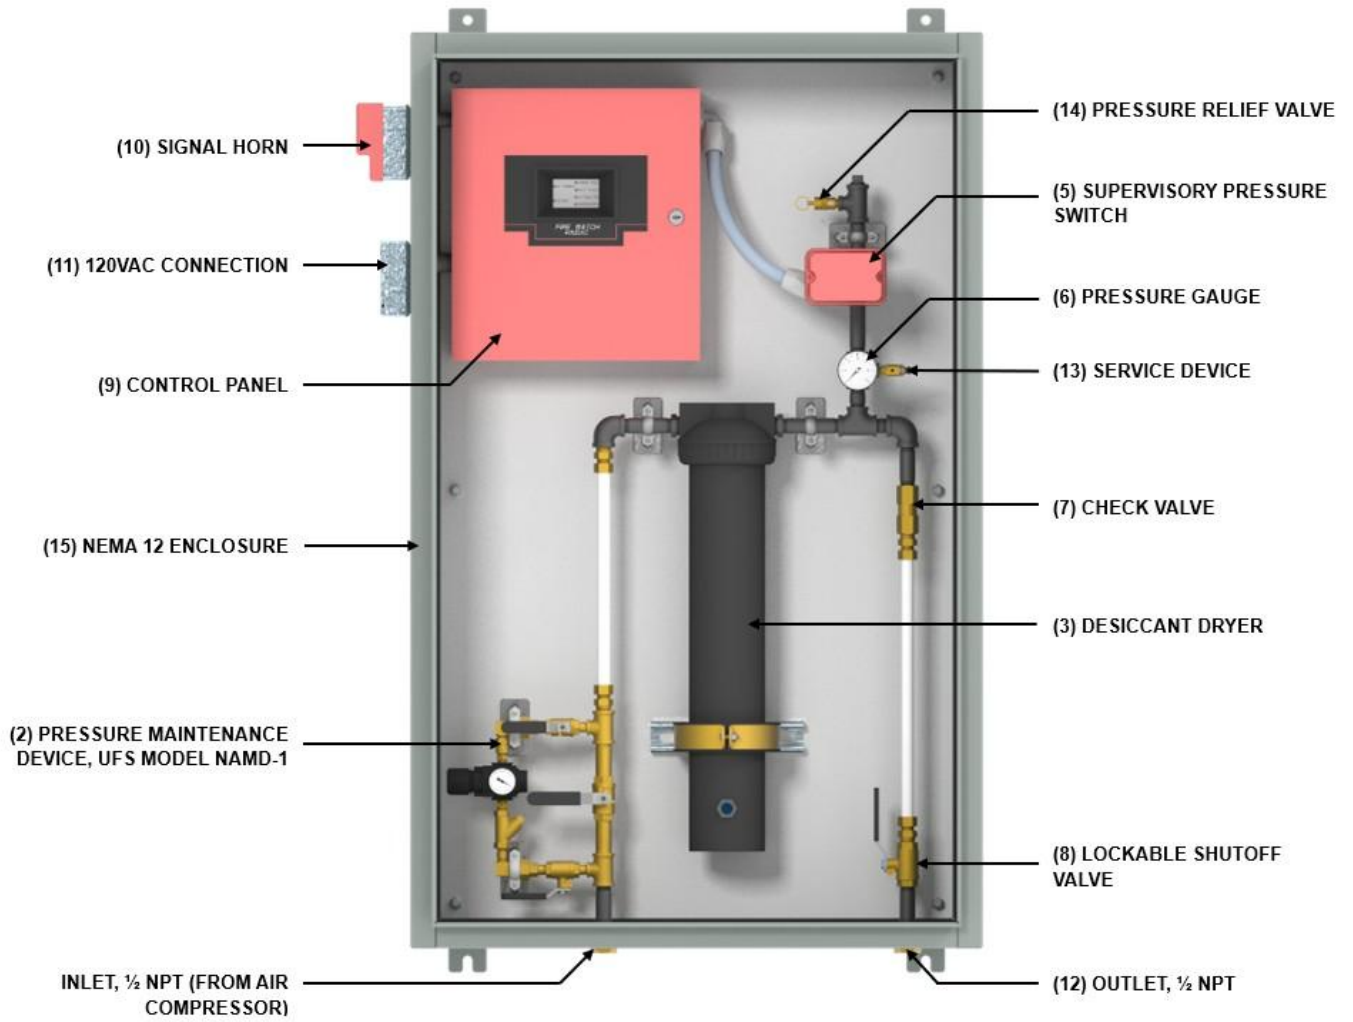

Figure 2 – **STANDPIPE-PAC™** SSS-100-XL1-N
- (5) Supervisory pressure switch. This switch senses when the pressure in the standpipe drops below 7 PSIG, as would happen if a standpipe valve was inadvertently opened, or a portion of the piping was inadvertently removed, or exceeds 23 PSIG, as may happen if the pressure maintenance device's regulator is set incorrectly or has its bypass valve open. This switch sends its signal to the control panel (9). See **Appendix B** for more information.
- (6) Pressure gauge. The pressure gauge indicates the approximate pressure in the system in PSIG.
- (7) Check valve. The check valve prevents entry of water into the **STANDPIPE-PAC™** when the Fire Department pumps water into the standpipe. This device is required by Local Law 64 / BC 3303.8.1.
- (8) Lockable shutoff valve. This valve permits maintenance on the **STANDPIPE-PAC™** without de-pressurizing the entire standpipe. This device is required by Local Law 64 / BC 3303.8.1, and per this law, shall be locked in the OPEN position.
- (9) Control panel with power supply, backup battery, silence switch, and automatic dialer. The control unit accepts the signals from the supervisory pressure switch (5) and operates the signal horn (10). The silence switch allows the signal horn (10) to be silenced. The power supply is dedicated to the system as required by Local Law 64 / BC 3303.8.1, and provides for backup battery power for the control unit. This device also provides an automatic dialer for connection of telephone lines for off-site notification. See **Appendix C** for more information.
- (10) Signal horn. Audible indicator of abnormal pressure in the standpipe. Additional signal horns may be connected so that signaling may be heard throughout the site.
- (11) 120 VAC Connection. A junction box for connection of 120 VAC, 60 Hz, single phase power for the control unit (9).
- (12) Outlet. 1/2" NPT pipe (provided by installer) is run from the outlet to a connection point on the standpipe.
- (13) Service device. See instructions in this manual for use of this device.
- (14) Pressure relief valve. To protect the internal components of the **STANDPIPE-PAC™** from damage, the pressure relief valve automatically opens when pressure exceeds maximum operating pressure. The pull-ring also allows for manual release of pressure.
- (15) NEMA enclosure (optional). A tamper-proof, lockable enclosure weather resistant and rated NEMA12 IP66. Appropriate for permanent standpipe installations. (Figure 2)